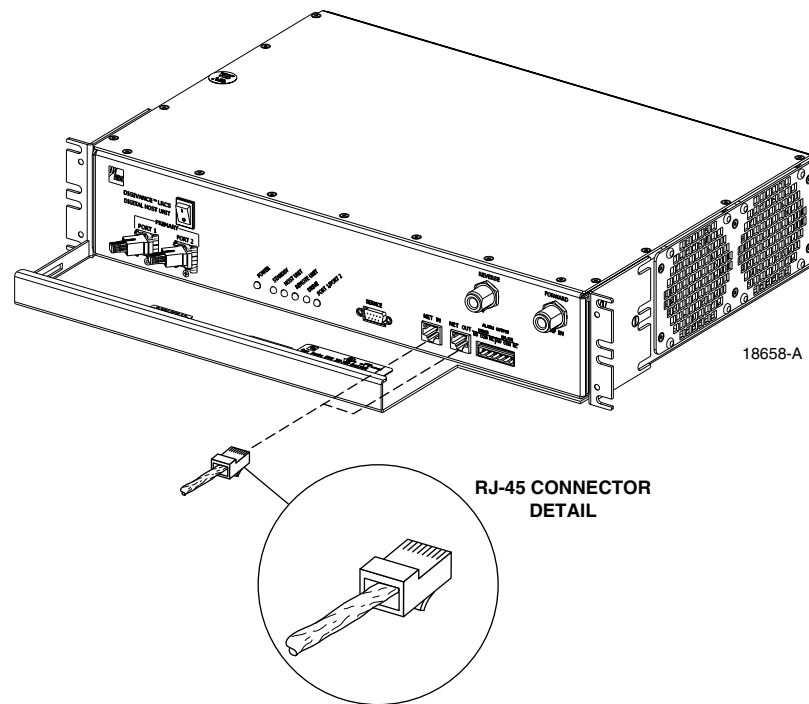

Figure 3-11. Controller Area Network Connections
1. Connect one end of the CAN interface cable (provided with the HU) to either the NET IN or NET OUT port on HU #1 as shown in Figure 3-11.